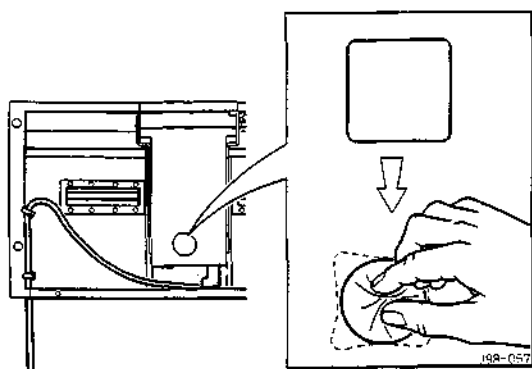

Figure 25. Dust filter replacement
1. Switch off the mains supply and pull out the old filter (Fig 25).